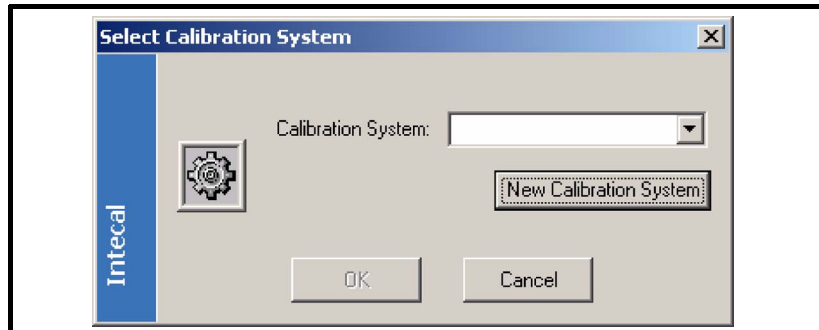

Figure 7-5: *Select Calibration System* window
- When the *Select Calibration System* window opens (Figure 7-5), select an applicable *Calibration System* from the drop-down list or click on the *New Calibration System* button.
2. When the *Select Calibration System* window opens (Figure 7-5), select an applicable *Calibration System* from the drop-down list or click on the *New Calibration System* button.